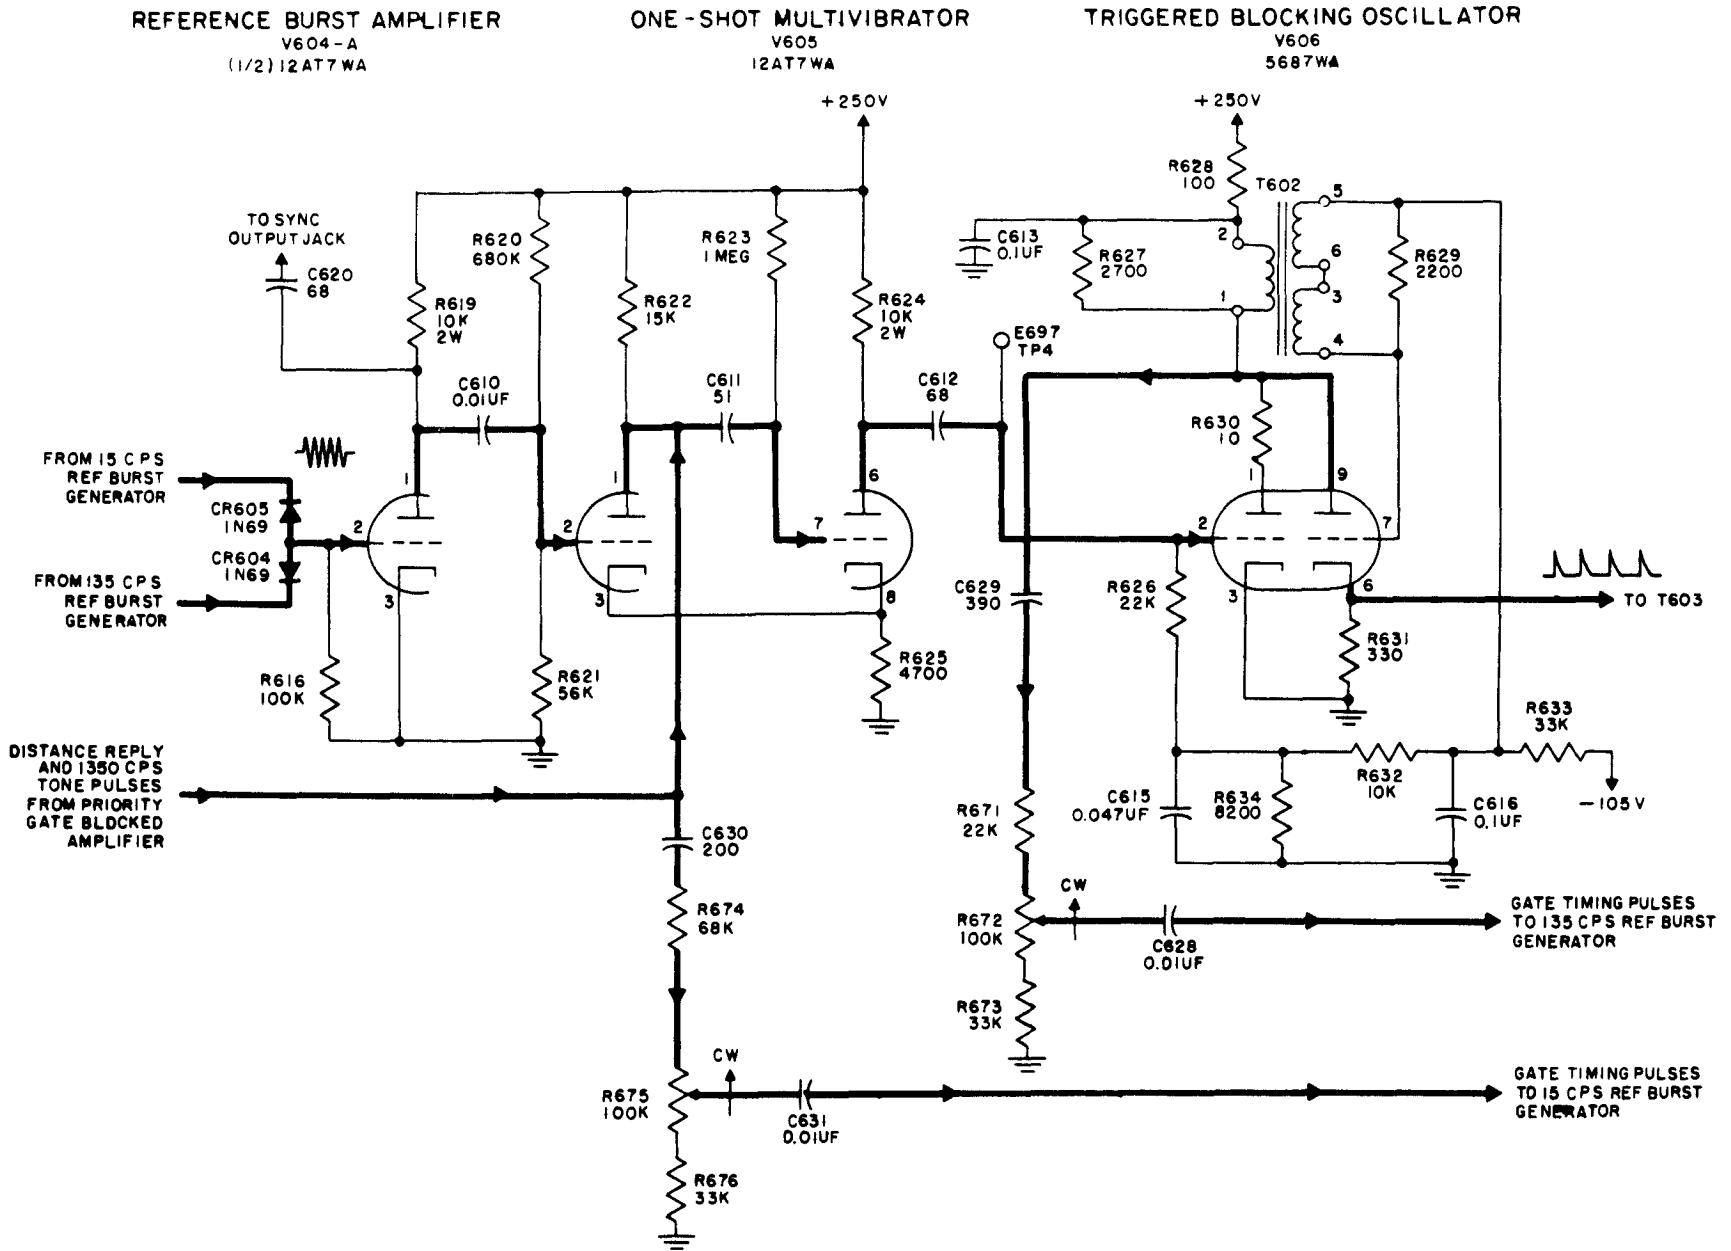

Figure 4-25. Coder-Indicator KY-382/GRN-9D, Shaping Amplifier, Simplified Schematic Diagram
**(c) SHAPING AMPLIFIERS.**—This stage consists of one-shot multivibrator V605 and triggered blocking oscillator V606 (figure 4-25). Dual triode V605 is a one-shot multivibrator which receives interrogation signal pulses from priority gate V611 and reference bursts from amplifier V604A. Triggering signal pulses to the multivibrator vary in amplitude and waveshape, while output pulses are of uniform amplitude and waveshape. The time spacing of multivibrator output pulses are an exact duplicate of the trigger pulses. In the stable condition, multivibrator V605B conducts because of a positive bias applied to grid pin 7 through potentiometer R623. Plate current through potentiometer R625 produces a positive voltage on the cathode of triode V605A, which biases this half of tube V605 to cutoff. When a